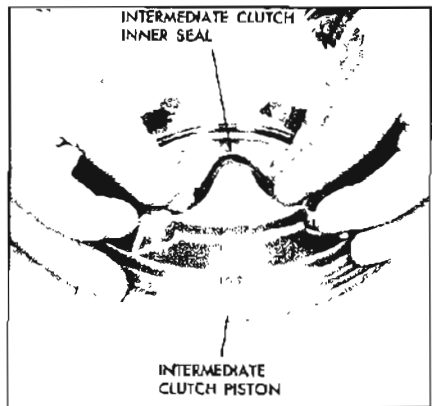

Figure 5-651
5. Remove the inner piston seal. See Figure 5-651.